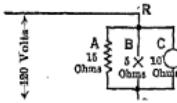

FIG. 44. Coil *A*, arc lamp *B*, and incandescent lamp *C* in parallel across 120 volts.
21. Parallel Circuit. Resistance. Suppose that it is desired to find the resistance of a parallel combination, as A , B and C , in Fig. 44. There are formulas for this, but the easiest method is to apply Ohm's Law as follows: